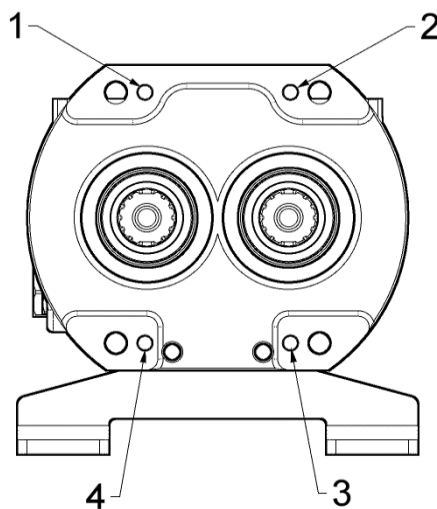

Fig.10 - Pin numbering
2 different positioning configurations of the centering pins (103) are possible, which will be described in the current paragraph. The configuration to be chosen depends on the working conditions of the pump. The pin holes are numbered from 1 to 4, starting from the one at the top left in the Fig.10 and proceeding clockwise: